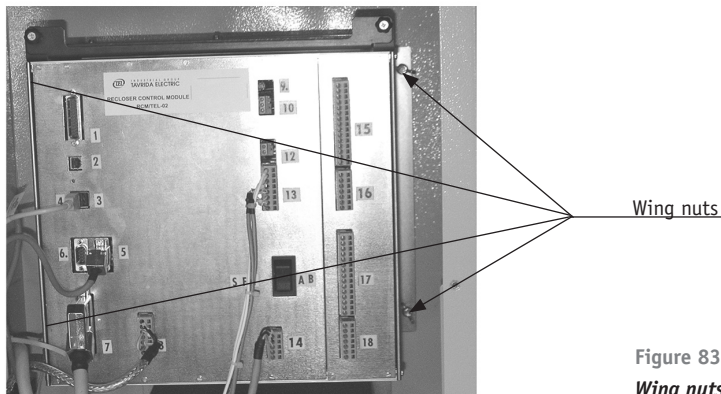

Figure 83
2. Unscrew four wing nuts fixing RCM and remove washers (Fig. 83).